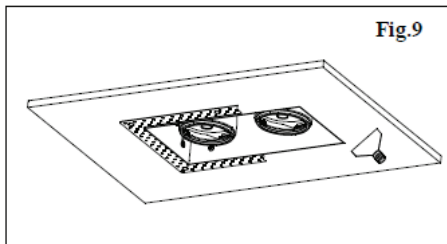
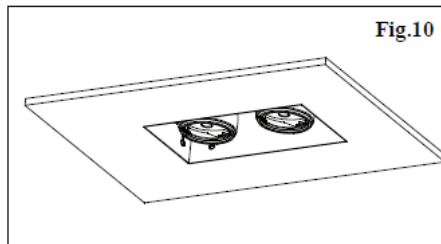

Fig.9
Fig.10
- Apply plaster over screen panel and sand surface when dry for a finish look (as Fig.9 and Fig.10).